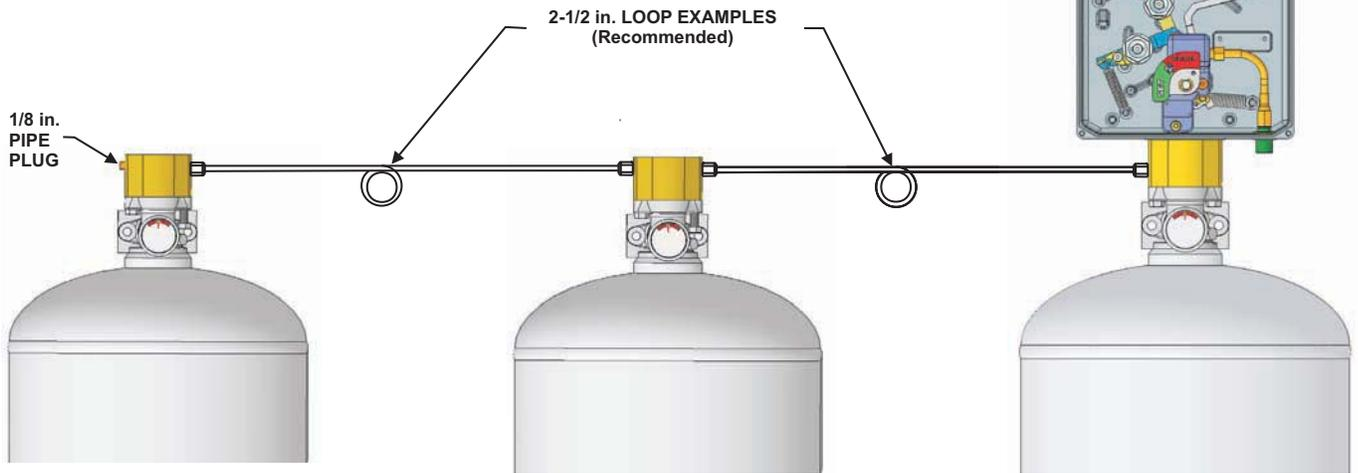

Figure 4-13. Example of Copper Tubing Loop Method
7. For multiple cylinder installations, install 1/8 NPT (M) x 1/4 copper tubing adapters. Compression type adapters are permissible.
8. For multiple cylinder installations, measure and install the 1/4 O.D. x 0.031 wall thickness copper tubing. A 2-1/2-inch (64 mm) loop between each cylinder and on the inlet tubing is recommended, but not required. See Figure 4-13. Ensure that each connection is secure.